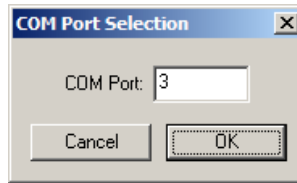

Figure 13. COM Port Selection
3. Once the COM port has been determined, press the "Select COM Port (COM_)" option in the compass application. Enter the correct COM port into the "COM Port Selection" window shown in Figure 13.